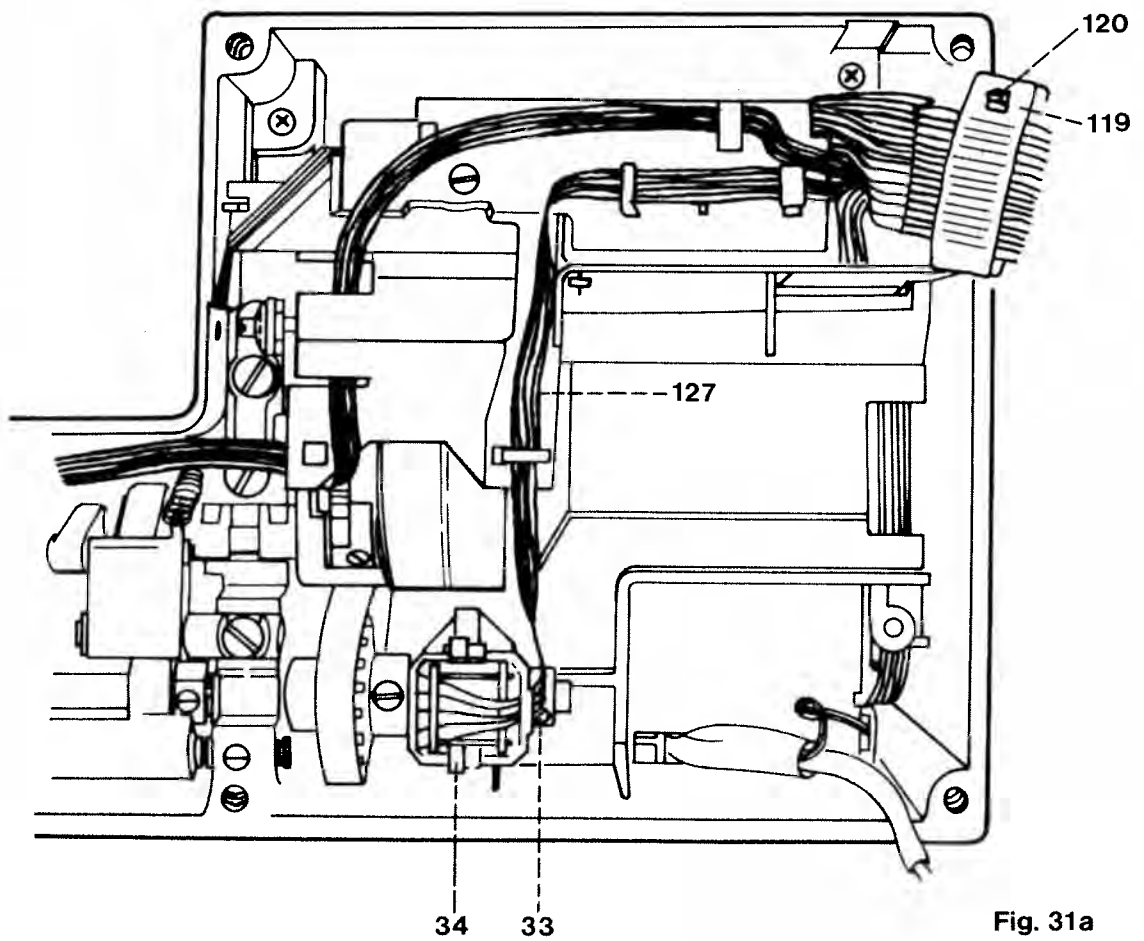

Fig. 31a
- Loosen fixing collar screw 33 of synchronizer 34 (Fig. 31a).
- Push new synchronizer 34 onto the shaft (Fig. 31a).